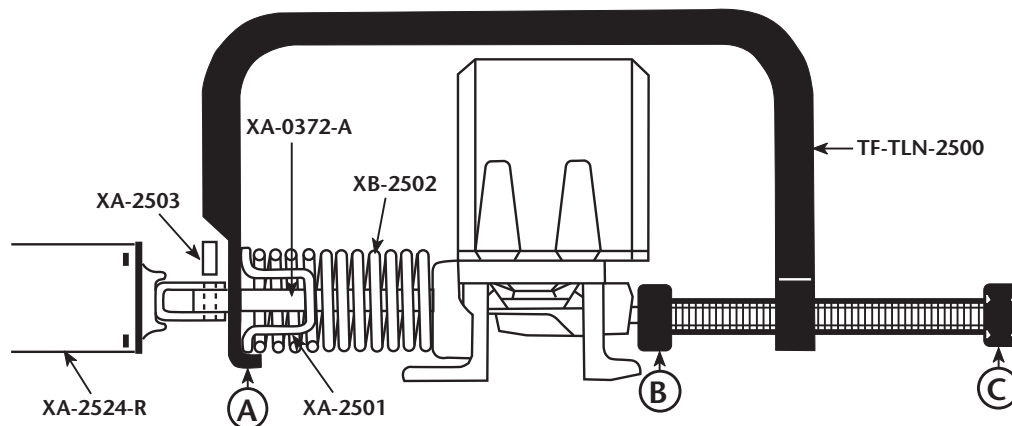

FIGURE 1
1. Hook the end of the spring compressor (A) behind the spring retainer (XA-2501).
2. Place the pivot block (B) of the spring compressor on the opposite end of the slide shoe adjustment bolt (see *Figure 1*).
3. Put a 5/8" socket over the hex head of the compressor screw and use a ratchet (**DO NOT USE AN IMPACT WRENCH**) to compress the spring until the retaining pin (XA-2503) can be removed, as shown in *Figure 1*.